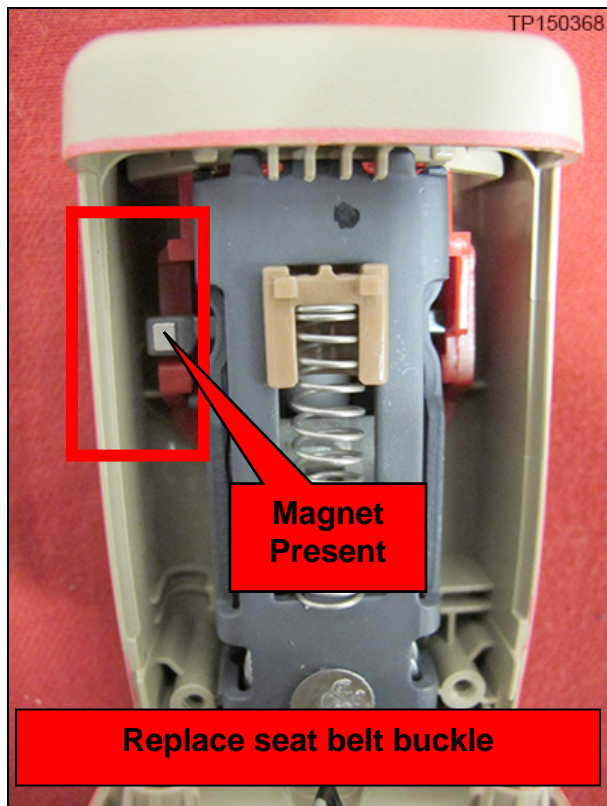
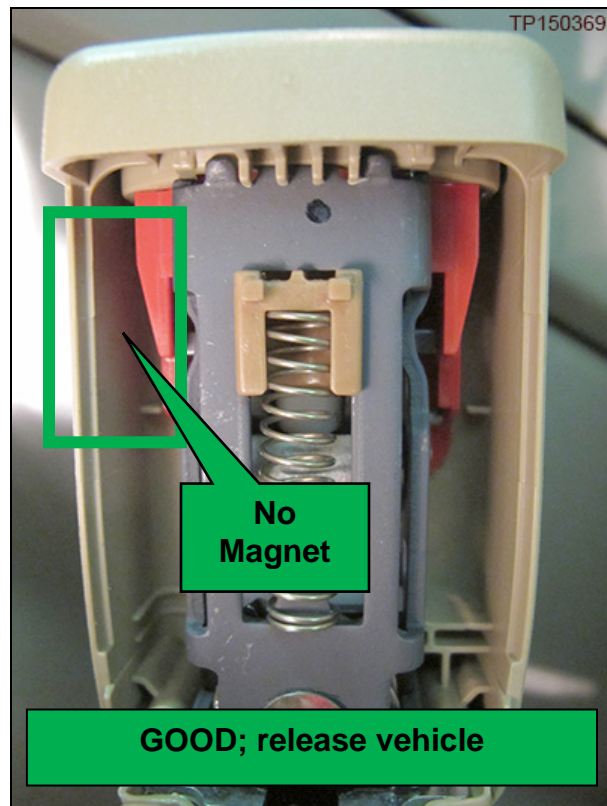

Figure 8
Figure 9
- See Figure 8 and Figure 9 below.
8. If a magnet **IS** present in either of the front seat belt buckle mechanisms, as shown in Figure 8, replace the affected front seat belt buckle and confirm tongue latches and unlatches.